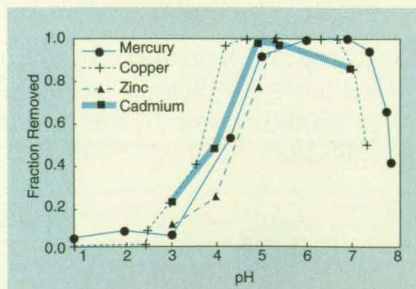

Figure 2. The **Adsorption of Metal** by the ion-exchange polymer material depends on the pH of the solution.
- The amount of an element adsorbed varies with the pH of the solution. This is shown in Figure 2 for cadmium, mercury, copper, and zinc.